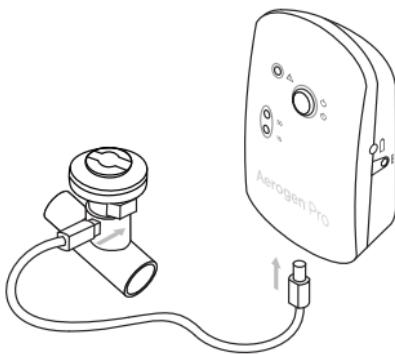

Figure 4. Connecting controller and nebuliser
- 4** Connect the Aerogen Pro controller and the nebuliser together using the controller cable (Figure 4).